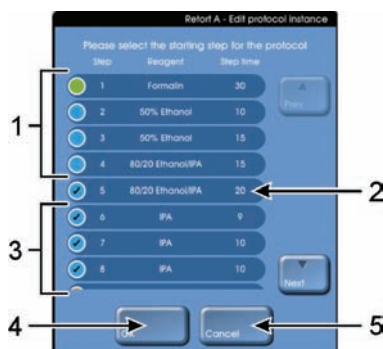

Figure 74: Edit protocol instance dialog box — first step highlighted
2. Select the step you wish to become the first step (see Figure 74).